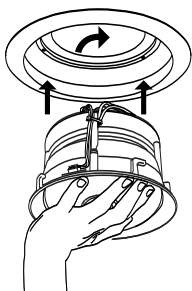

Figure 18
10. Holding the speaker in the palm of your hand, insert the speaker into the frame, twist clockwise to lock. **(See Figure 18)**.